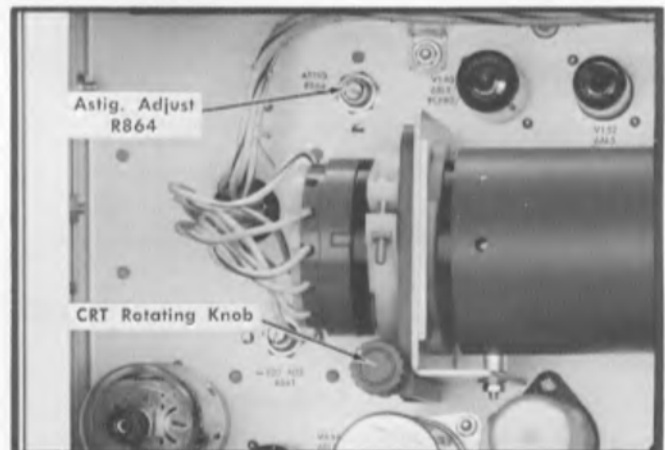

Fig. 6-9. CRT alignment and astigmatism adjustment control locations.
- f. Adjust ASTIG. R864 (Fig. 6-9) for as round a spot as possible.
- c. Adjust the CRT rotation knob (Fig. 6-9) until the trace is parallel to the center horizontal graticule line.